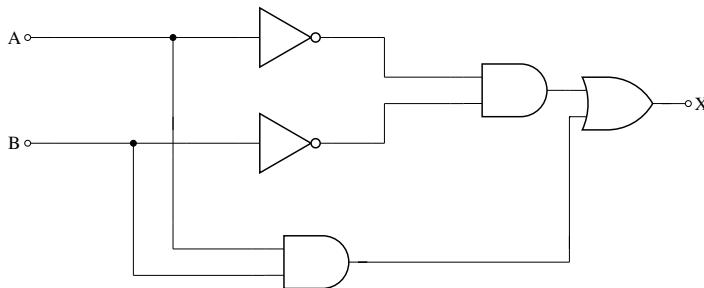

Fig. 3.27
43. A and B are logical inputs and X is the logical output shown in Fig. 3.27. The output X is related to A and B by